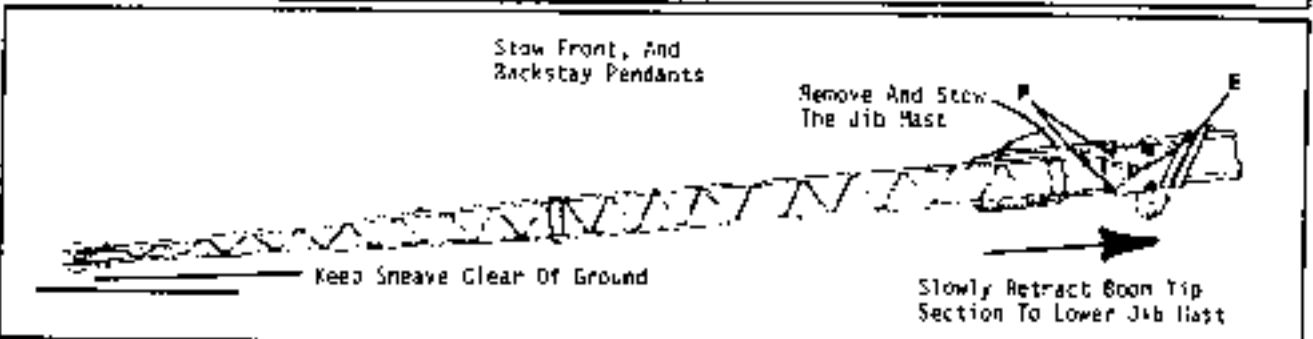

Fig. 4-15
Step 3: Slowly retract the boom tip section keeping the jib head sheave clear of ground. The mast will lower onto the jib as the tip section retracts. Refer to Fig. 4-15.